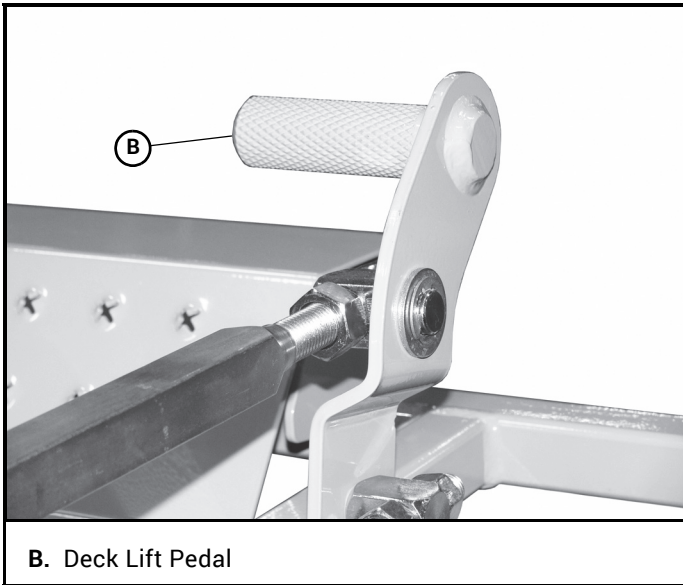

Figure 3-10
- B. **Deck lift pedal (Figure 3-10)** – the deck lift pedal is used to raise or lower the deck. Push on the pedal to raise the deck and then place the deck height locking pin into the desired cutting height hole.